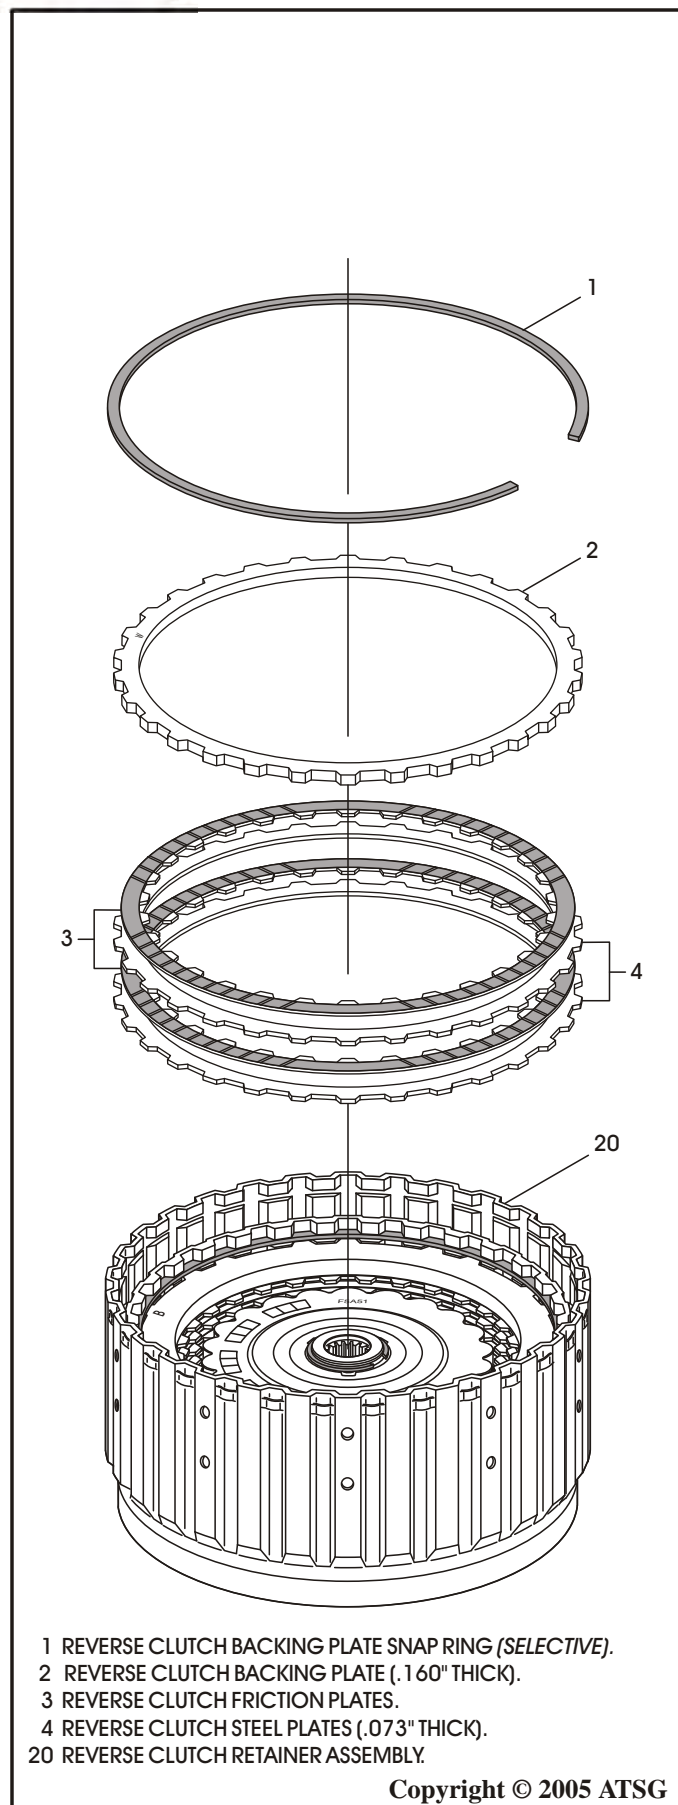

Figure 87
22. Install the reverse clutch plates beginning with a steel plate and alternating with friction plates until you have installed two of each, as shown in Figure 87.
23. Install the reverse clutch backing plate with the rounded edge towards friction plate, as shown in Figure 87 and 88.
24. Install the reverse clutch backing plate snap ring, as shown in Figure 87.